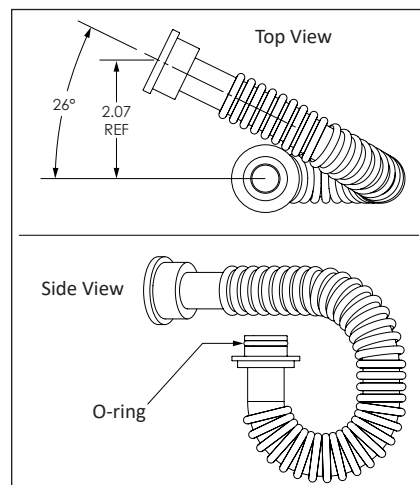

Figure 54 - Bend Flex Hose
- 11 Remove new flex hose from service kit. Carefully bend flex hose to allow for easy connection to Smart Valve and hot t-nipple as shown in Figure 54.